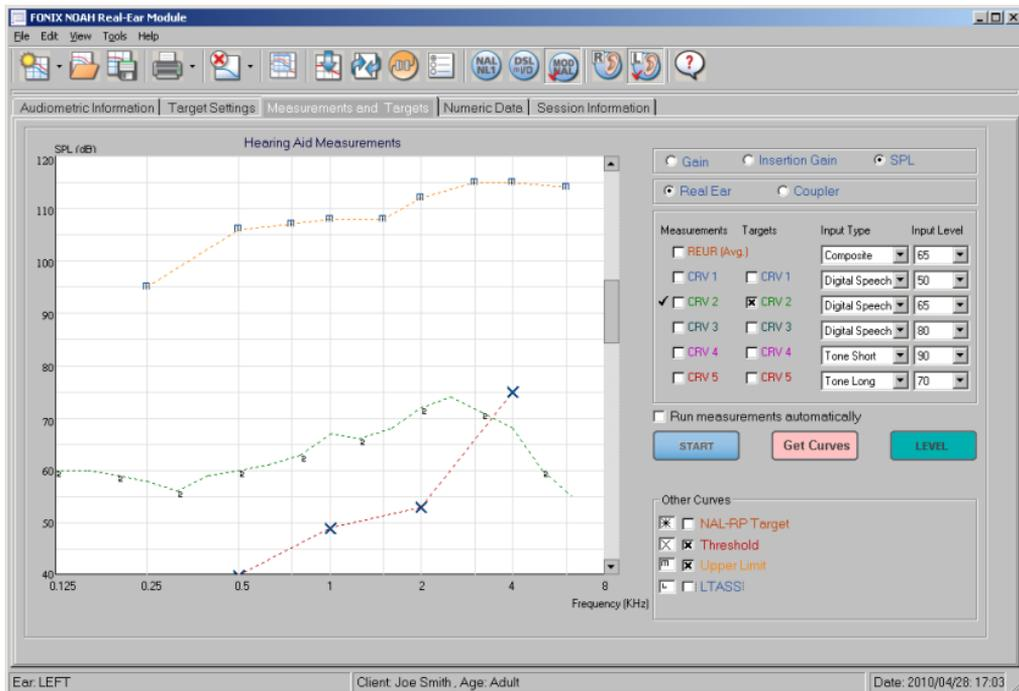

Figure 3: Measurements and Targets screen
8. In the **Targets** column, select the check boxes of the targets you want to display. For instance, if you want to display the 65 dB target, select the check box in the **Target** column for CRV 2. This is demonstrated in Figure 3.
9. In the **Measurements** column, select the check box of the curve you want to measure. A checkmark will appear to the left of the current selected curve. (This is also demonstrated in Figure 3.)